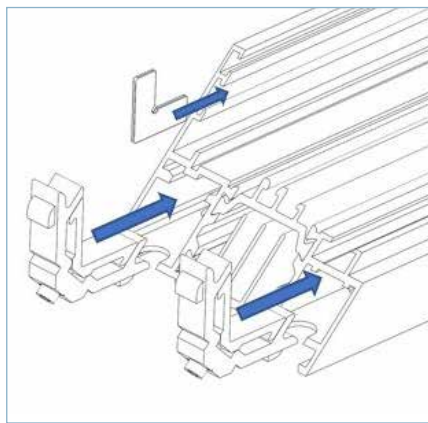

FIG 2
- ▶ 2. Insert the mechanical cleats and chevrons provided (FIG 2)